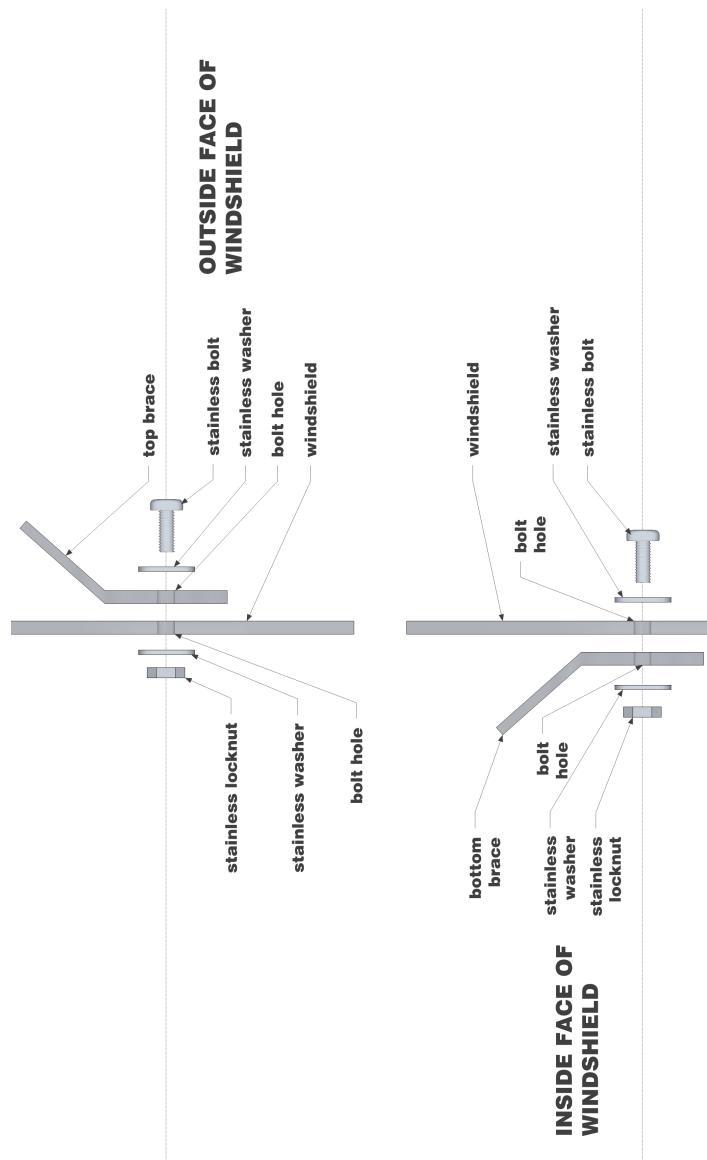

fig.1
3. Now take the rubber gasket provided and install it along the bottom of the windshield. Take care to seat the gasket fully to the bottom edge contour. Install the top and bottom braces using 1 stainless bolt, 1 stainless locknut, and 2 stainless washers per hole. On most models, the bottom brace is widest(installed *inside* the windshield), with the narrower brace used at the top(installed *outside* the windshield). Other models use the same brace top and bottom. The bolts should be installed through the front of the windshield with the bolt head facing forward, the locknuts on the back of the windshield facing rearward, with one washer under the bolt head and one washer behind the locknut at the rear. Install both braces using this sequence; even though the bottom brace is installed inside the windshield the bolt heads should still face forward, and hardware orientation remains the same as stated above(see fig.1).